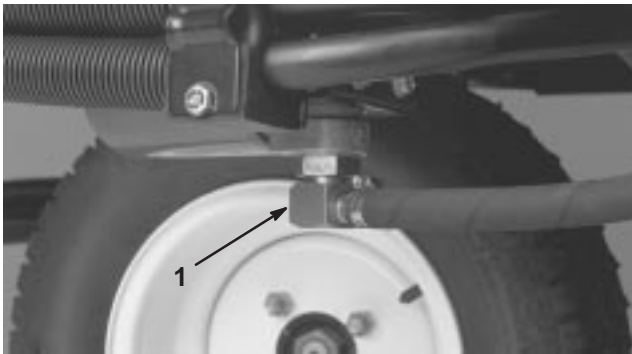

Figure 52
- Disconnect the hydraulic line (Fig. 52) or remove the hydraulic filter (Fig. 53) and let the hydraulic fluid flow into a drain pan. Install the hydraulic line when hydraulic fluid stops draining.